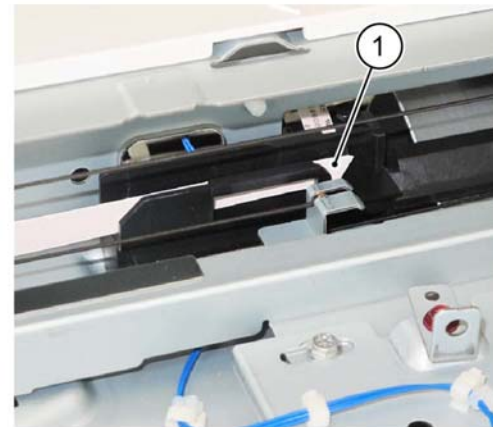

Figure 5 Cable assembly disconnection (2)
8. Disconnect the FFC LED cable assembly from the guide, **Figure 5**.